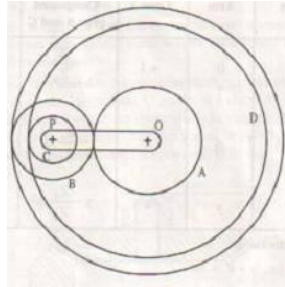

Fig. 4.7
7. In Epicyclic gear train shown in the fig 4.7, wheels A, D, E are free to rotate independently on the spindle O, while the compound wheel B-C rotates on the spindle P on the arm OP. If wheel A is given clockwise revolution of 60rpm, while gear D is given counterclockwise revolution at 300rpm, Determine the magnitude and direction of speeds of arm OP and wheel E.